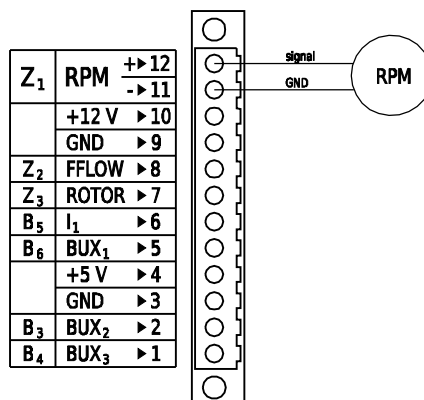

Figure 43: Engine RPM signal connection schema.
ECU unit has a digital engine RPM output. Two wires are used, signal is connected to ”+“ pin on Z1 channel and ground is connected to ”-“ pin on Z1 channel. See figure 43 for proper connection schema.
Two wires are used. One wire is connected to ”+“ pin on Z1 channel and the other wire is connected to ”-“ pin on Z1 channel. See figure 43 for proper connection schema.
Rotax (912) engines usually come equipped with a trigger coil for monitoring RPM. One wire is connected to ”+“ pin on Z1 channel and the other wire is connected to ”-“ pin on Z1 channel. See figure 43 for proper connection schema.